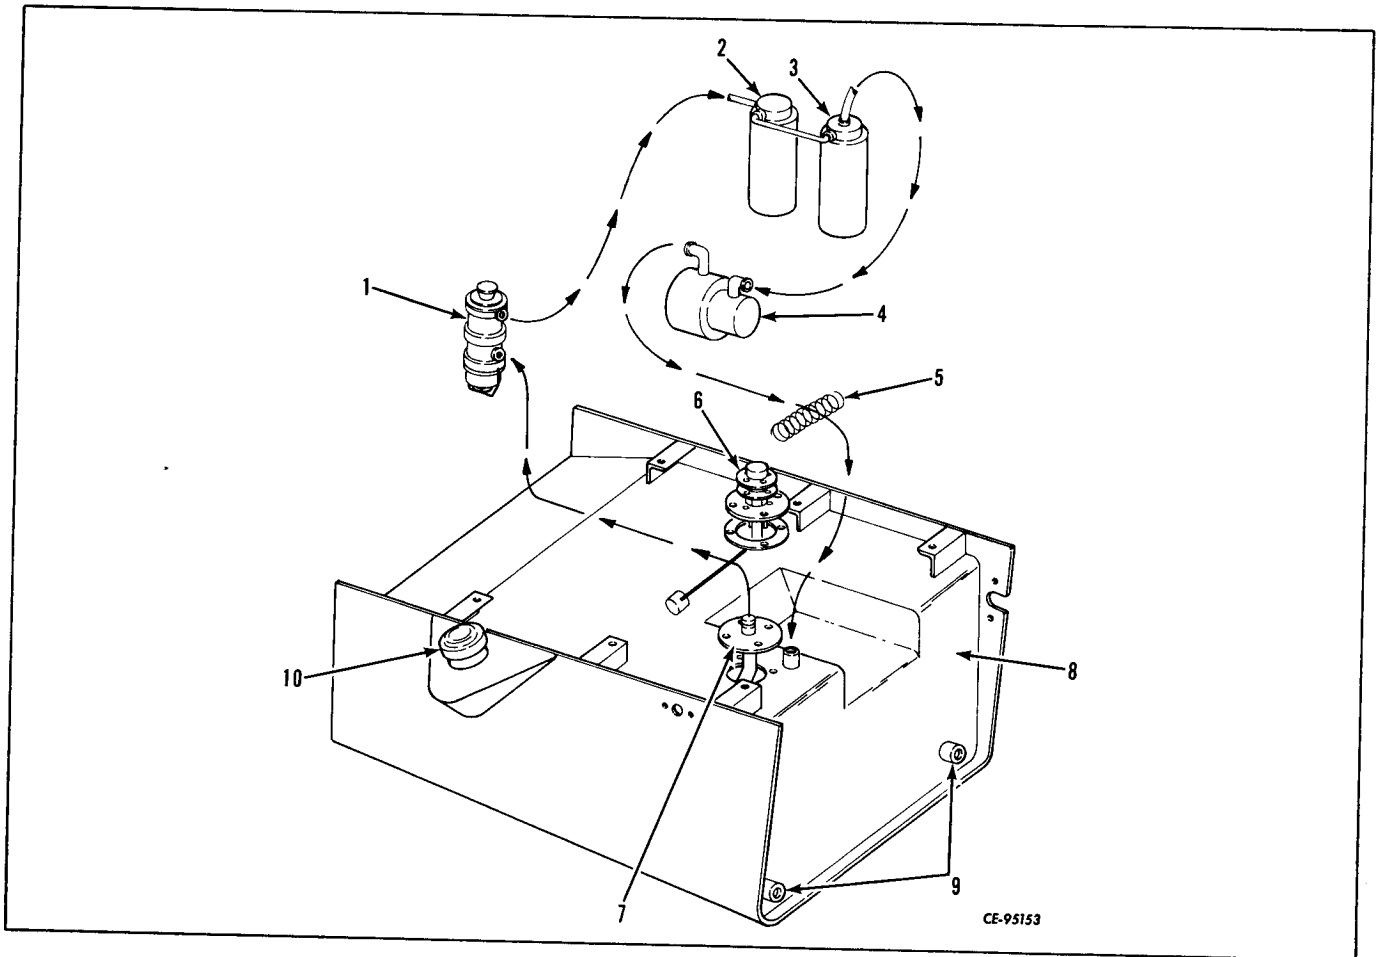

Figure 2-55
Drain the fuel tank before removal. Remove the drain plugs (9, Fig. 2-55). Disconnect the fuel supply line and fuel return line from the fuel tank. Disconnect fuel level sender wire (5). Remove cap screws and nuts disconnecting crankcase drain line from mounting bracket on side of fuel tank.
Fuel from the fuel tank is drawn up through the tube assembly (7, Fig. 2-55) by the fuel transfer pump (1). From the transfer pump, fuel is directed to the primary filter (2), final filter (3) and then enters the fuel injection pump (4). The injection pump (4) pumps fuel to the injection nozzles.